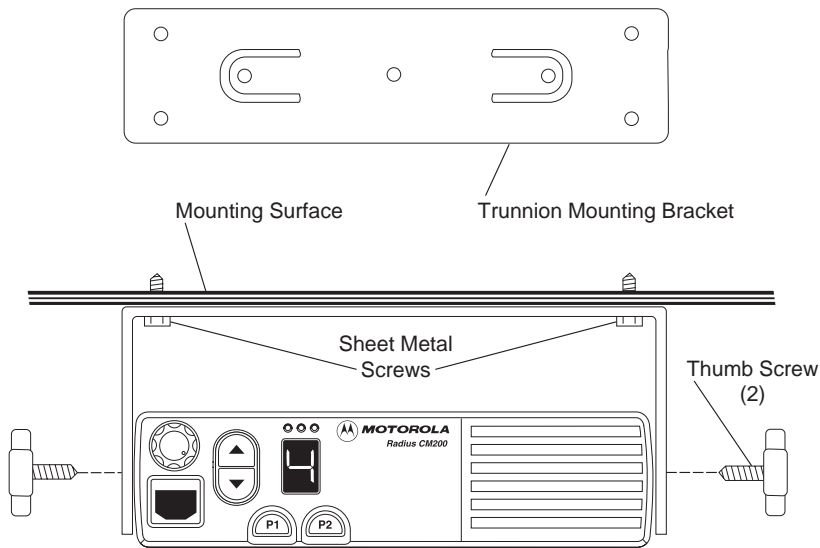

Figure 3-1. Transmission Hump Mounting (Top) and Below Dash Mounting (Bottom)
1. Select either the transmission hump or an open underneath portion of the dash to mount your radio. (See Figure 3-1.) When mounting the trunnion on the transmission hump, be careful that the transmission housing is not affected.
4. Secure the trunnion mounting bracket to the mounting surface with the four self-tapping screws provided. (See Figure 3-1.)